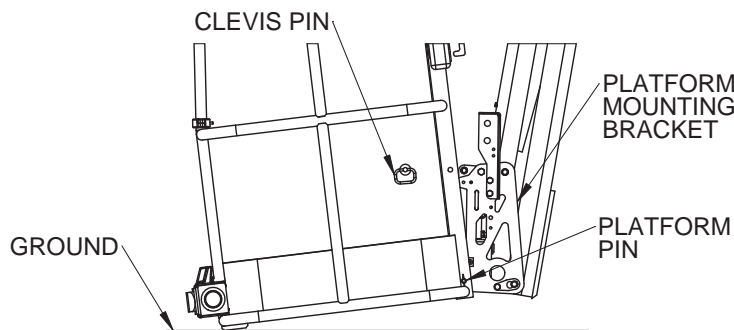

Figure 4-13. Platform Position
- 1) Remove the **CLEVIS PIN** securing the **PLATFORM** to the **PLATFORM MOUNTING BRACKET**, allowing the **PLATFORM** to pivot about the **PLATFORM PIN** and rest on the ground. This removes the load from the **LOAD CELL**. Refer to Figure 4-13.